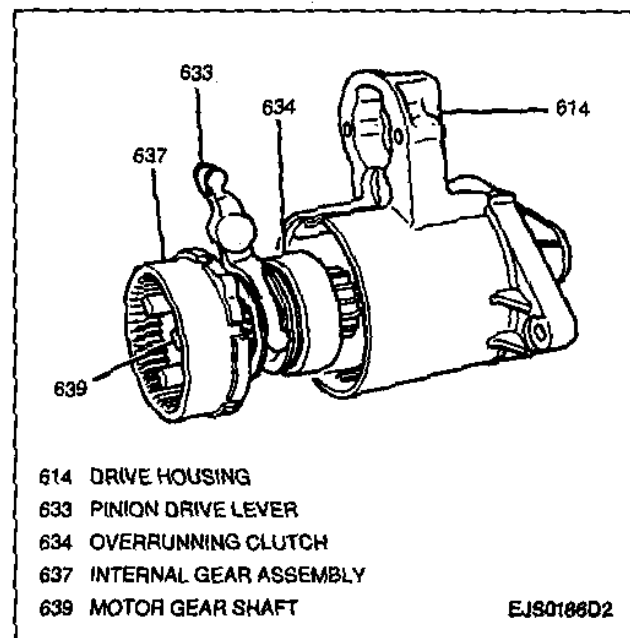

Figure 18—Removing Motor Gear Shaft Assembly
7. Motor gear shaft assembly with pinion drive lever from drive housing (Figure 18).